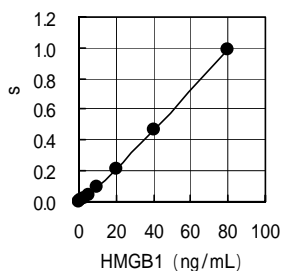

Fig. 1 : Typical standard curve
13. Subtract the absorbance of zero well from the absorbance of each well. Read the HMGB1 concentrations of unknown samples from the standard curve (see Fig. 1). If samples have been diluted, the concentration read from the standard curve must be multiplied by the dilution factor.